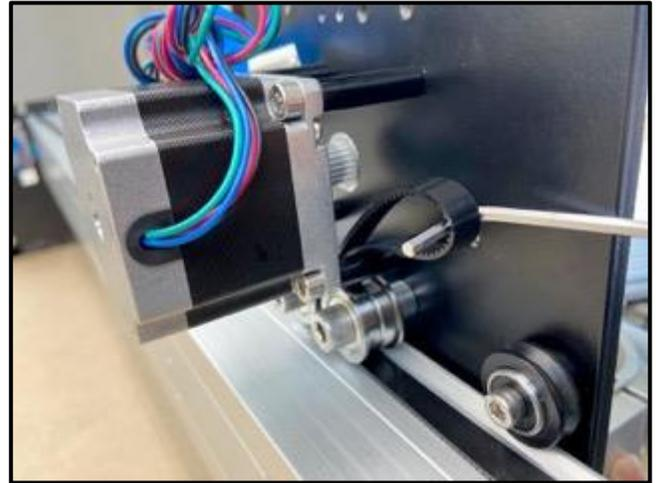

Figure 5-8
6. Use the 3mm hex key to reach in between the X-motor and carriage plate, hook the loop, and pull it up and out towards you. See *Figure 5-8*.